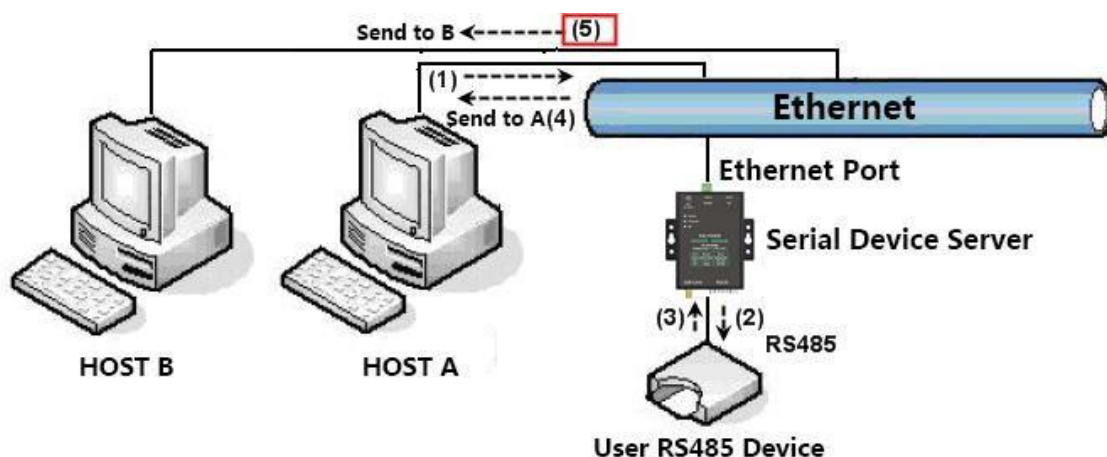

Figure 36 Multi-host function demonstration
As shown in Figure 36, in the normal mode, when two hosts: host A and host B are connected to the serial server at the same time, host A sends (1) command, RS485 device receives (2) command, RS485 device returns (3)) command, but the serial port server will send (4) to host A and (5) to host B at the same time. Since the host B did not send the query, but it also received the response command (5), the host B may generate a communication abnormal error. In the multi-host mode, there will only be command (4) but not command (5), because the serial server will automatically remember the host that needs to be returned, and only return the instructions to the most recent communication host, and the query of host A will only reply to A, host B queries and replies to host B.
As shown in Figure 36, if the serial device (RTU device) is used as the master station and the network port device (Modbus TCP device) is used as the slave station, and there are multiple network port slave devices at the same time. At this time, you can use the method described in 5.2.2 Client Connecting Multiple Servers to let the serial port server as a client connect to these multiple network port devices at the same time.